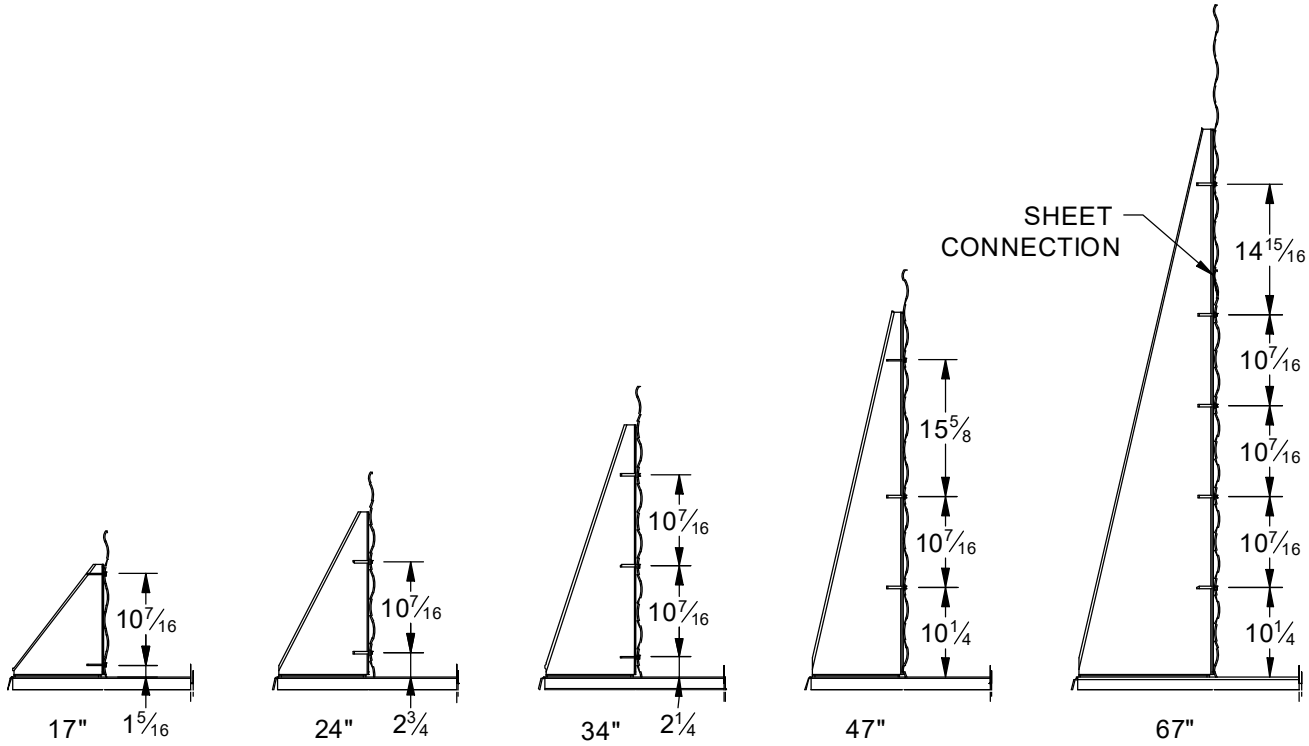

Fig 14 - Wall panel to ZGD brace screw location top mount
1. As wall sheets are being assembled around the system, also assemble the ZGD brace to the wall sheet using 1/4 x 1-1/2" Self-Tap Screws as shown in Figure 14 and 15.